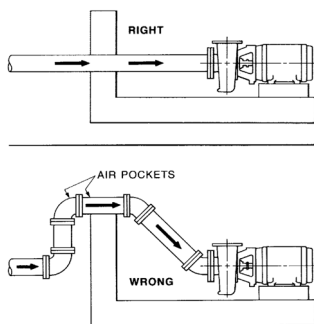

Fig. 4 Air pocket prevention
- Avoid any high points, such as pipe loops Fig. 4, that may create air pockets and throttle the system or produce erratic pumping.